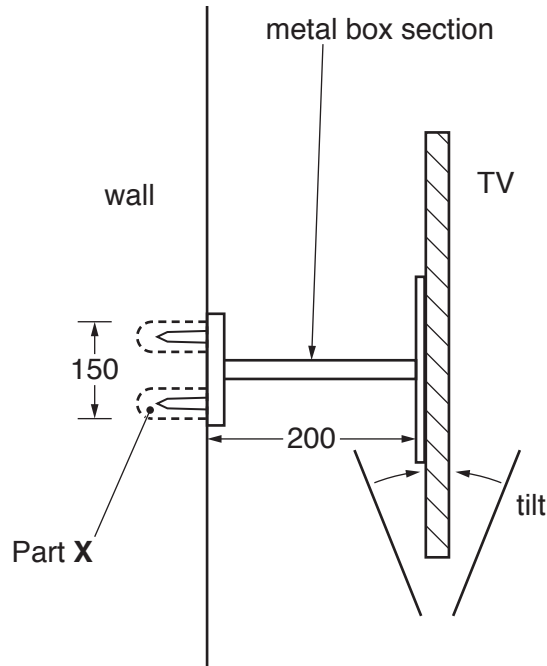

Fig. 6.1
- 6 Fig. 6.1 shows an incomplete design for a metal bracket that is to be used to mount a television on to a wall. It is designed to fold back to the wall and allow the screen to tilt. A piece of metal box section connects a wall plate to the plate on the back of the television.